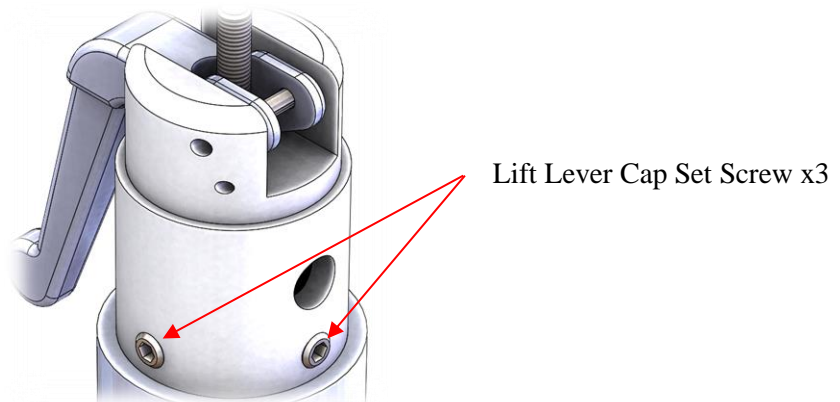

Figure 18: Lift Lever Cap Set Screws
4. Loosen the three lift lever cap set screws. See Figure 18. These must be unscrewed enough so that they no longer engage the lift lever lock nut.